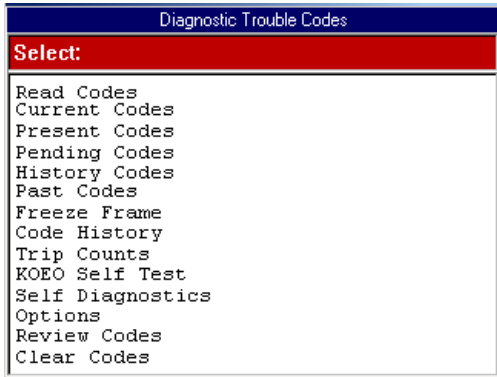

Figure 7.3: Diagnostic Trouble Codes Menu Screen Example
- 1 With the Diagnostic Menu screen displayed, select **Diagnostic Codes** and press the **ENTER** key. This displays the Diagnostic Trouble Codes menu screen (Figure 7.3 on page 38).